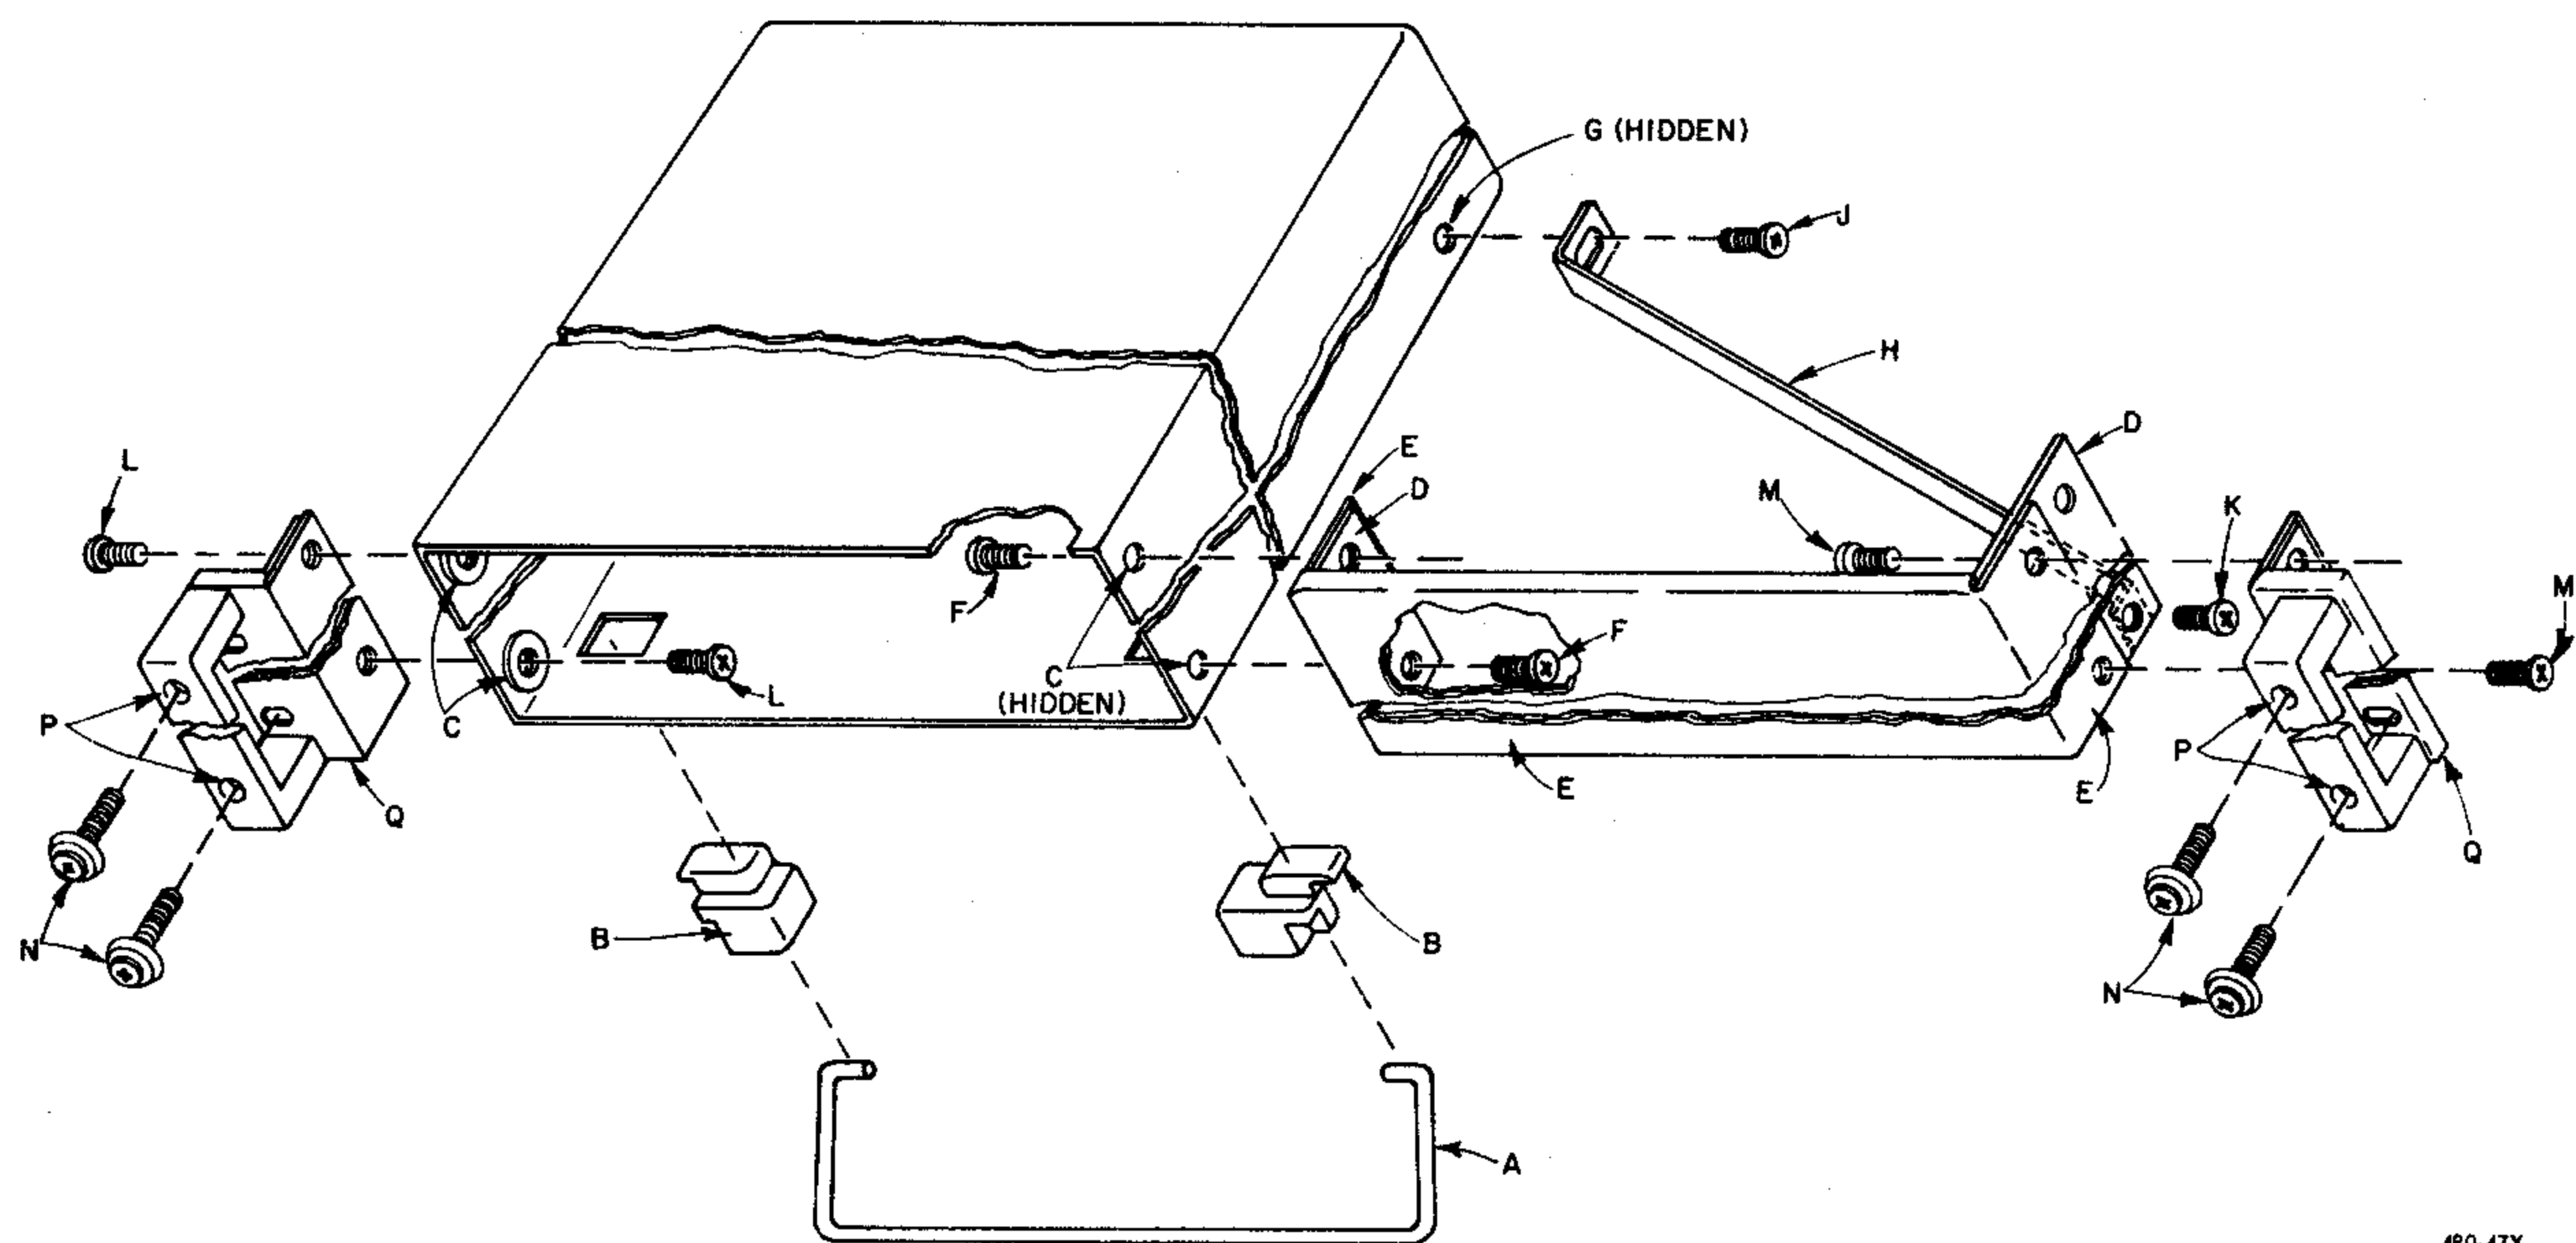

Figure 2-2. Method of mounting scaler in a relay rack.
2.4.1 Single Instrument and Blank Panel (Figure 2-2).